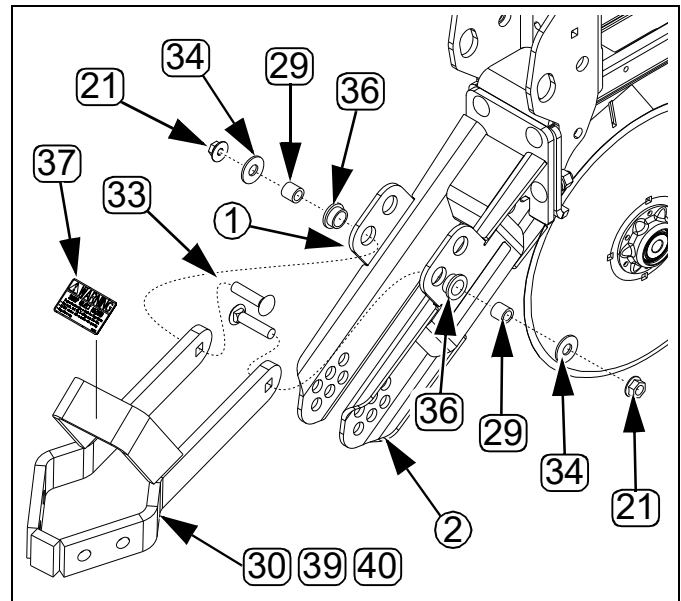
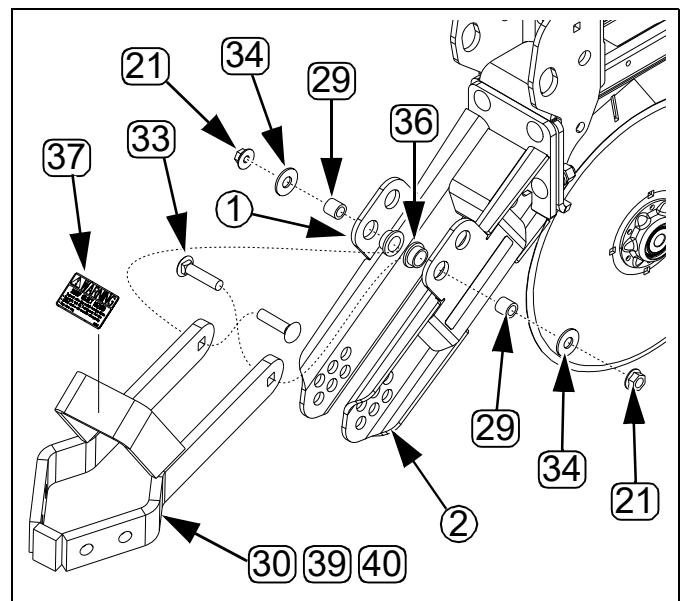

Figure 8:
Figure 9:
Refer to Figure 8 or Figure 9
- ③⑨ 207-095H SINGLE ARM RC WLD RH (even rows)
- ④① 207-099H DOUBLE ARM RC WLD
- ②⑨ 207-067D UMC RC PIVOT TUBE
- ③③ 802-331C RHSNB 1/2-13X1 3/4 GR5
- ②① 803-169C NUT HEX FLG. LOCK 1/2-13 PLT.
- ③④ 804-017C WASHER FLAT 1/2 USS PLT
- ③⑥ 817-615C RC ARM PIVOT BUSHING
- ③⑦ 818-525C DECAL SHARP OBJECT WARNING
4. Insert the pivot tubes ②⑨ inside the bushings ③⑥. Insert these two assemblies in the UMC mount holes, from the outside (preferred placement, Figure 8). If clearance difficulties are encountered, use the alternate placement in Figure 9.
6. Align the RC arm (③①, ③⑨, or ④①) in between the holes with the new bushing assemblies, and hold in place with bolts ③③.
7. Snug square shanks of bolts in arm holes, and secure bolts with flat washers ③④ and flanged lock nuts ②①.
8. Clean and dry the surface of the gusset on the arm weldment ④① and apply the decal ③⑦.